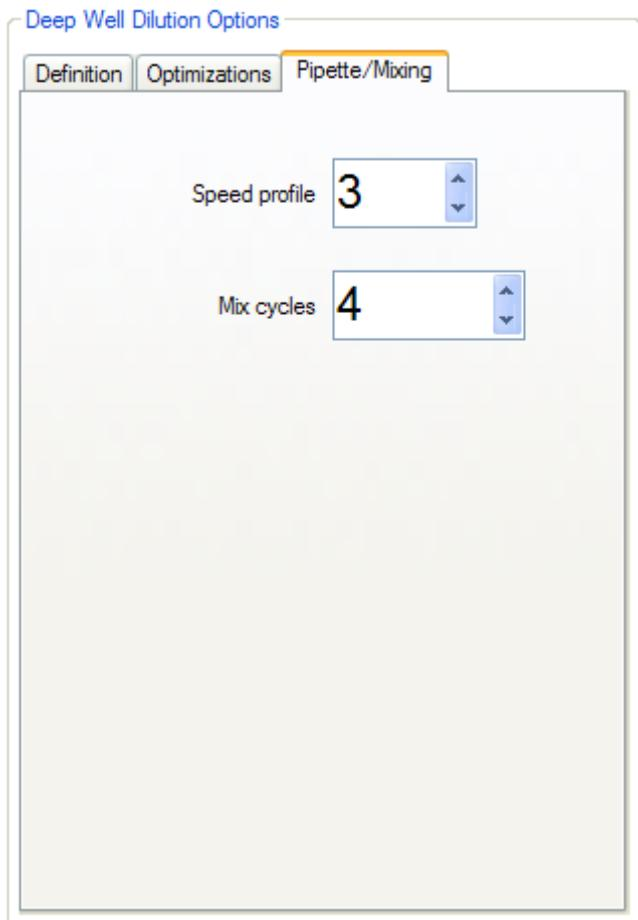

Figure 5-12: Pipetting/Mixing Tab
14. Click on the Pipette/Mixing tab (Figure 5-12).